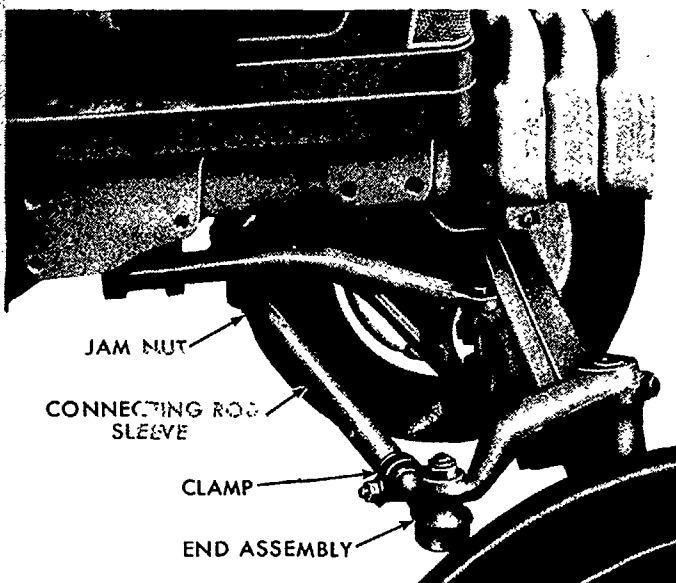

Figure 22
2. Remove the bolt, nut, lock washer and flat washer from the clamp on the connecting rod sleeve, Figure 22. This will allow the notched end assembly to be free to slide in the connecting rod sleeve.
2. Remove the nut, bolt, lock washer and flat washer from the clamp on each connecting rod sleeve, Figure 22.